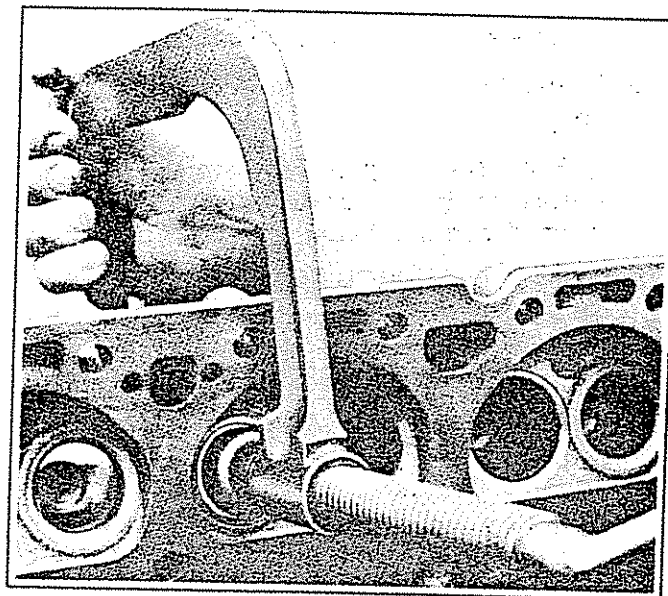

Fig. 6A2-16--Compressing Valve Spring-Typical
2. Using Tool J-8062, compress the valve springs (Fig. 6A2-16) and remove valve keys. Release the compressor tool and remove rotators or spring caps, oil shedders (if so equipped)